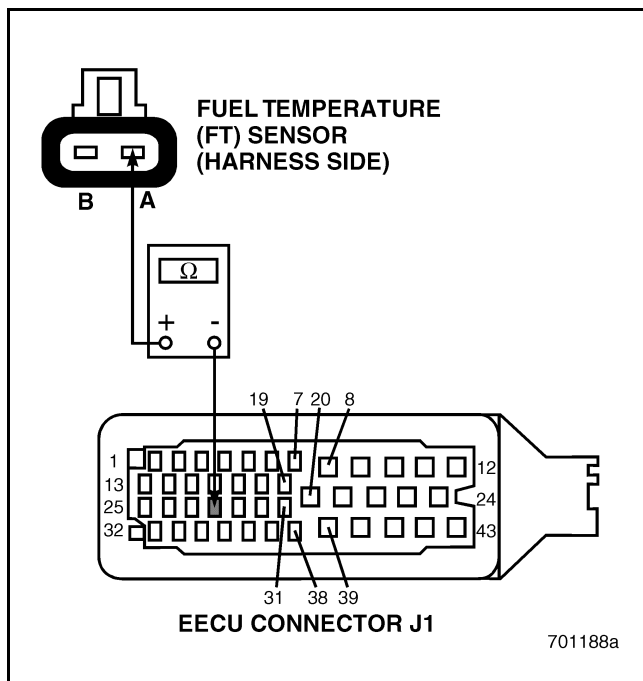

Figure 49
4. Check for continuity between pin A of the FT Sensor harness connector and EECU harness connector J1 pin 28 (see Figure 49).